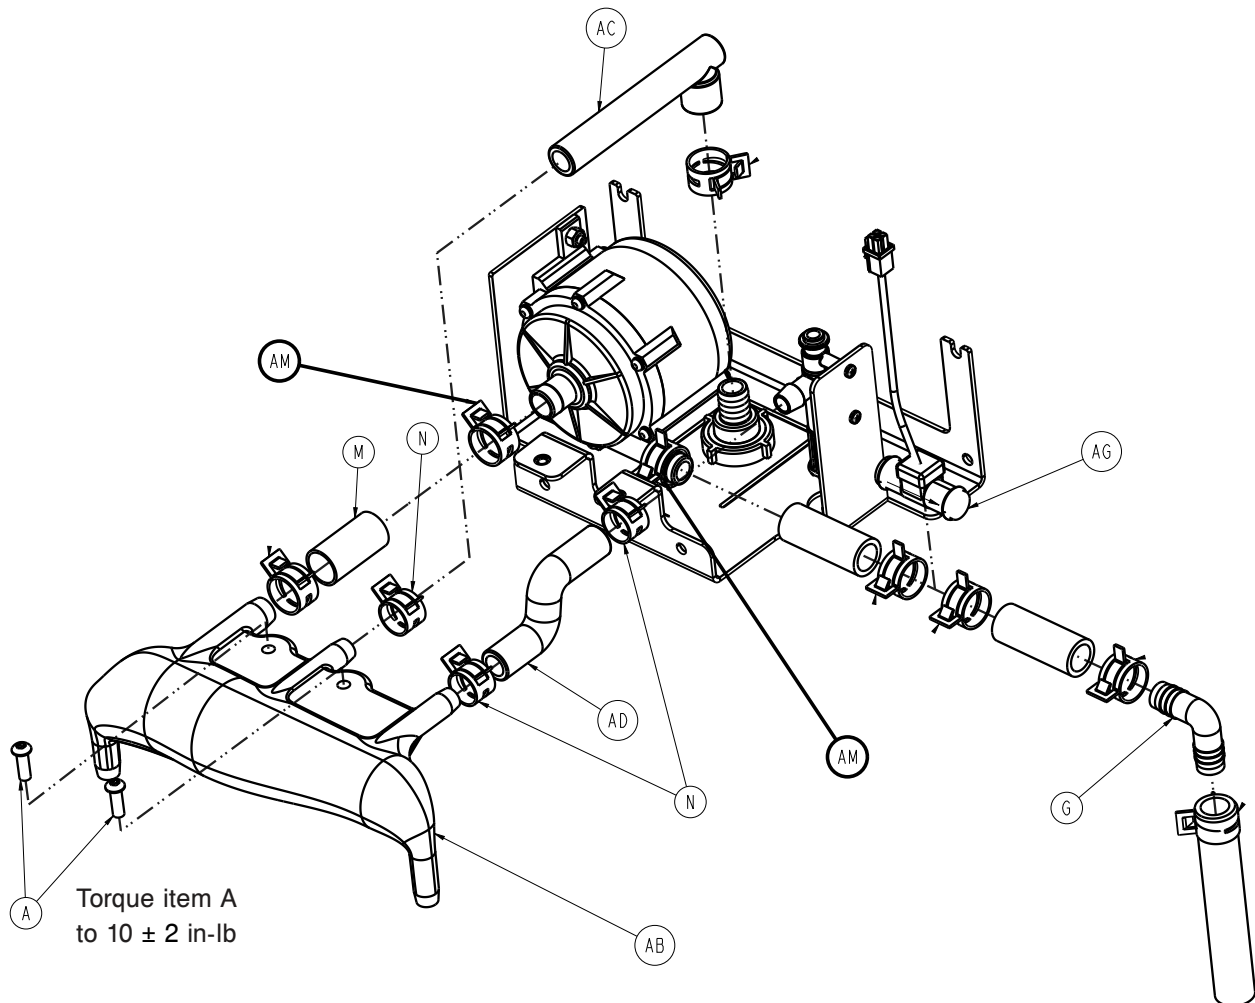

Figure 20 – Two hose clamps
10. Using needle nose pliers, squeeze the two hose clamps (AM) that secure the tubing to the fluid pump (Figure 20).